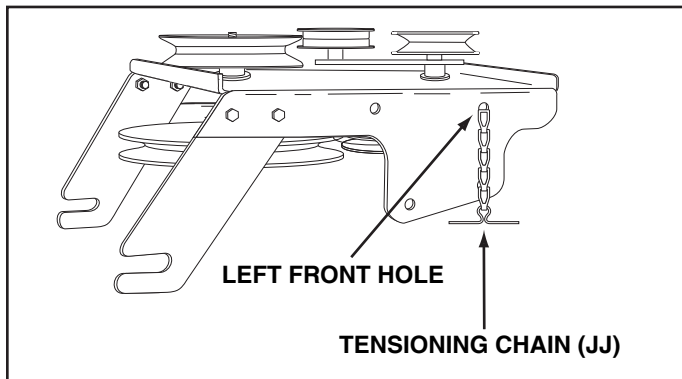

FIGURE 42
STEP 42: (SEE FIGURE 42)
- Pace the extra tensioning chain (JJ) through the left front hole in the clutch/idler assembly and then turn the assembly upside down.